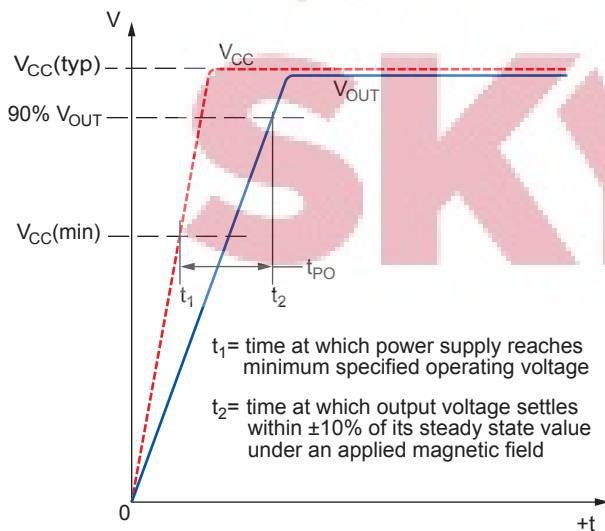

Figure 1: Definition of Power-On Time,  $t_{PO}$
**Power-On Time.** When the supply is ramped to its operating voltage, the device output requires a finite time to react to an input magnetic field. Power-On Time,  $t_{PO}$ , is defined as the time it takes for the output voltage to begin responding to an applied magnetic field after the power supply has reached its minimum specified operating voltage,  $V_{CC(min)}$ , as shown in Figure 1.